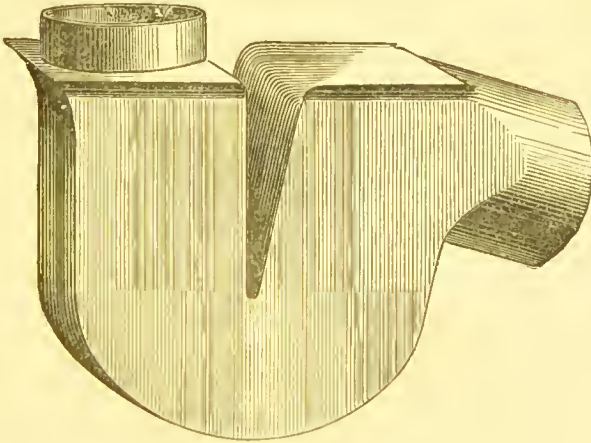
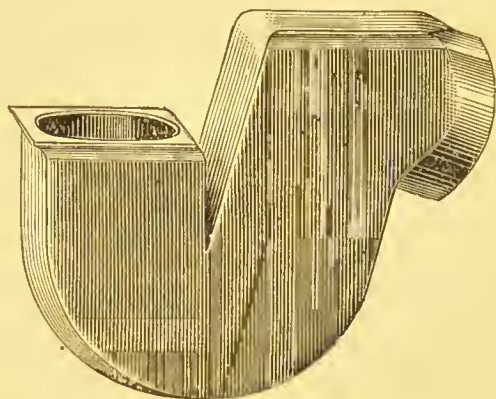
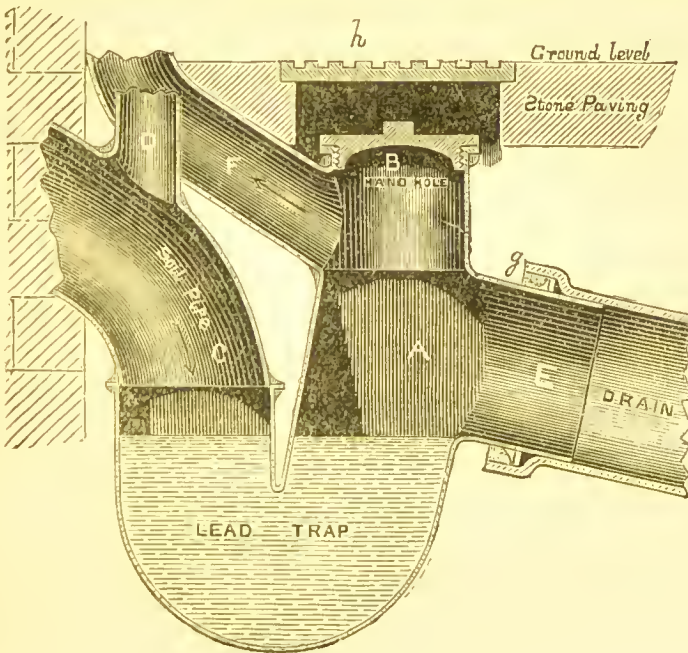
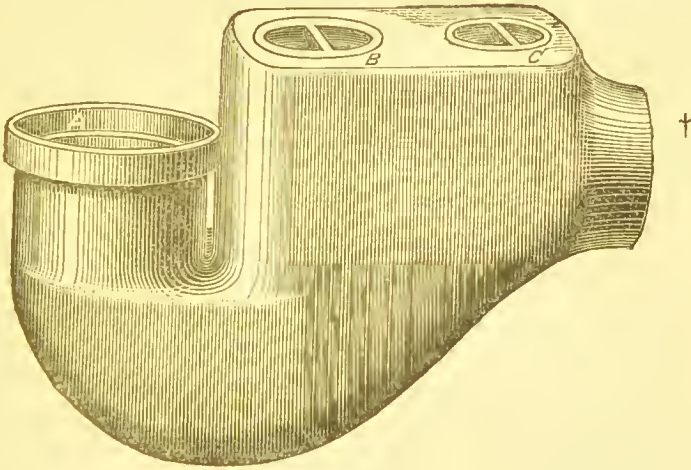

FIG. 12.
FIG. 13.
FIG. 14. SECTION.
FIG. 15.
*Soil-pipe Trap.*—This soil-pipe water-trap, Fig. 12, is similar in principle to the “mansion,” or “V-dip” trap. It is specially constructed for fixing at foot of soil-pipes, and connecting the same with drains. There are two sizes—one for
Figs. 12 and 13 show this trap in lead—Fig. 12 for vertical soil-pipe, and Fig. 13 for “horizontal.” The substance should always be strong, and never less than lead 7 lbs. to the superficial foot, and for good work 8-lb. lead should be used. Any skilled plumber can make this trap. In Fig. 13 the dip, or inlet, is kept a few inches lower than the top of the outgo, to allow for a horizontal soil-pipe to come into it without much increasing the depth of the trap (see Fig. 14, showing this trap fixed). The cheeks and band are of the same width at every part of the trap, except at the outlet, and so arranged as to give a water-dip of 1½ in. The outgo of the trap is rounded to fit the drain-pipe, and also to give a
Fig. 14 shows a section of this lead soil-pipe trap, fixed immediately *outside* the external wall of the house, with all its connections. These soil-pipe traps should never be fixed *inside* a house if
can escape into the open air ; and also, when the screw-cap, B, Fig. 14, is removed for the inspection of the trap, or drain, or for cleaning out same, the drain will be exposed to the external air, instead of inside the house.
A, Fig. 14, shows a section of this trap with its water-dip of  $1\frac{1}{2}$  in. ; B, the hand-hole, with a cap and screw over it—this is a *short* piece of  $4\frac{1}{2}$ -in. lead pipe soldered on the top of the trap, with a brass cap and screw soldered on the top of it ; C, the soil-pipe coming through the wall ; D, air-pipe, or “foot-ventilation” to the soil-pipe ; E, connection of the outgo with the drain-pipe ; F, ventilating-pipe to drain and trap ; G, a moveable galvanised iron cover let into stone paving over the screw-cap to the trap, for access to it without disturbing anything.
The air-pipe, D, Fig. 14, must never be connected with the ventilating-pipe, F, Fig. 14, from the drains (see “Foot-ventilation,” Chapter VIII., page 57). Where the main drain is properly ventilated, and there is only a very short length of branch drain between this soil-pipe trap and the main drain, it is not necessary to have a ventilating-pipe, as shown at F, Fig. 14. But where the branch drain is a long length of piping, then it is important to have this ventilating-pipe, so that every part of the drain shall be properly ventilated.
Fig. 15 shows a pottery-ware trap,\* which the writer specially designed for fixing at the foot of soil-pipes. It is more suitable than lead for this purpose, and being fixed *outside* the house, the jointing is not of the same importance as connec-
tions when inside the house. It is a round-pipe trap with a *water-dip* of  $2\frac{1}{2}$  in. The inlet is kept low down, to receive the soil-pipe when it is brought through the external wall of the house, as shown in the lead soil-pipe trap, Fig. 14. But of course it is equally well adapted for receiving vertical soil-pipes. The soil-pipe can be "tafted" at the end, or a lead flange can be soldered at the foot of the pipe, as shown at *g*, Fig. 14, and fitted
into the socket of the trap at A, Fig. 15. The waste-discharges will then drive everything foreign out of the trap; but when the soil-pipes are *branched* into the dip of the trap, foul matter is splashed all over the inlet part of the trap to make it filthy. B, Fig. 15, is a movable cap for the hand to get into the trap to clean it out, and C, Fig. 15, is a provision for ventilating the drain at this point when necessary. A galvanised iron plate can be fixed over the hand-hole of this trap, as shown to lead trap, *h*, Fig. 14.